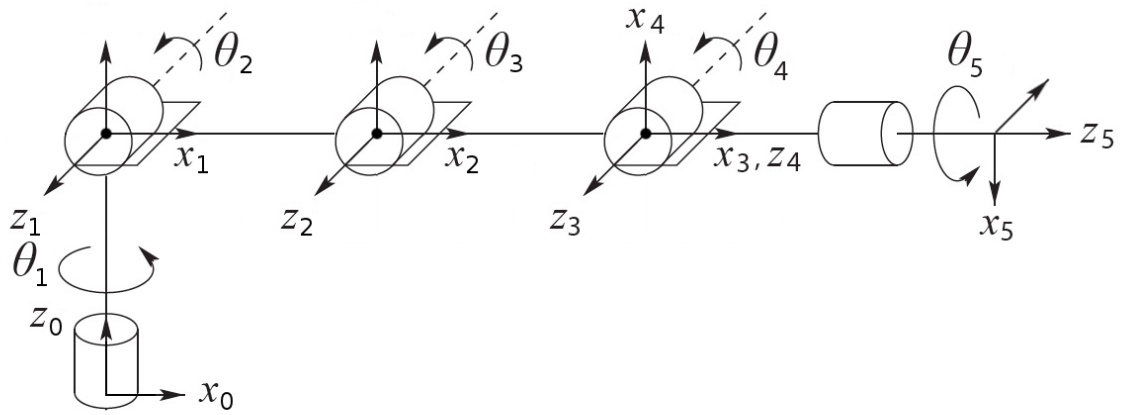

Figure 1: Denavit-Hartenberg frame placement for the A150 and A255 robots.
1. Derive the table of Denavit-Hartenberg (DH) parameters for the A150 robot using the frame placements shown in Figure 1. Links 1–3 all have a length of 10 inches. Link 4 can be treated as a link of length 0 inches. The distance between o_4 and o_5 is 2 inches.